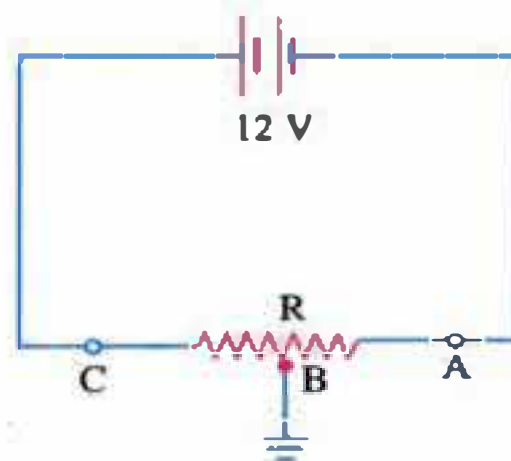

Fig. 1.16
- In Fig. 1.16, the grounding point B is located at one-third of resistance R from A . Compute the potential of point (i) A and (ii) C . What is the p.d. between A and C ? What is the direction of flow of conventional current between points A and C ? [(i) -4 V (ii) $+8\text{ V}$; 12 V ; C to A]